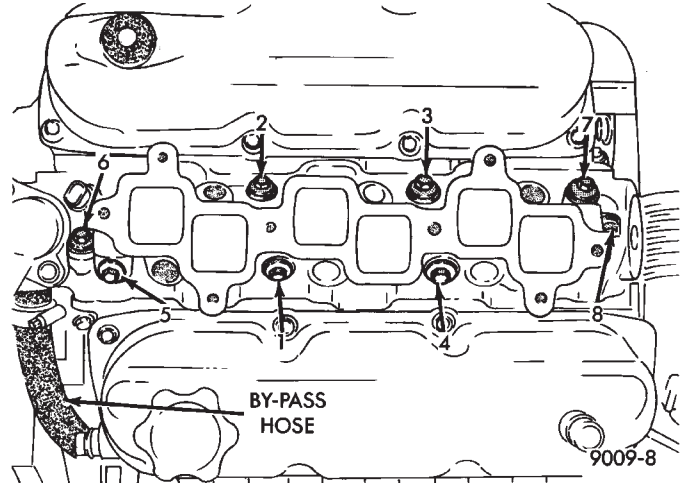

Fig. 37 Intake Manifold Removal and Installation
(4) Install intake manifold and (8) bolts and torque to 1 N·m (10 in. lbs.). Then tighten bolts to 22 N·m (200 in. lbs.) in sequence shown in (Fig. 37). Then